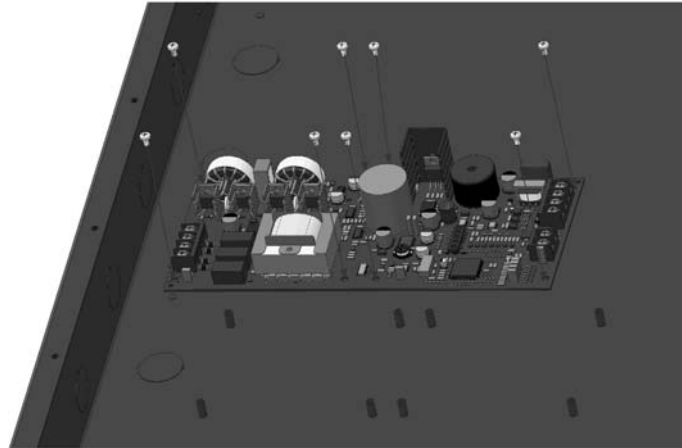

Figure 4-22 EVS-INT50W in FACP Cabinet
3. Align the board with the mounting holes. Mount the EVS-INT50W inside the FACP cabinet with the screws provided. See Figure 4-22.